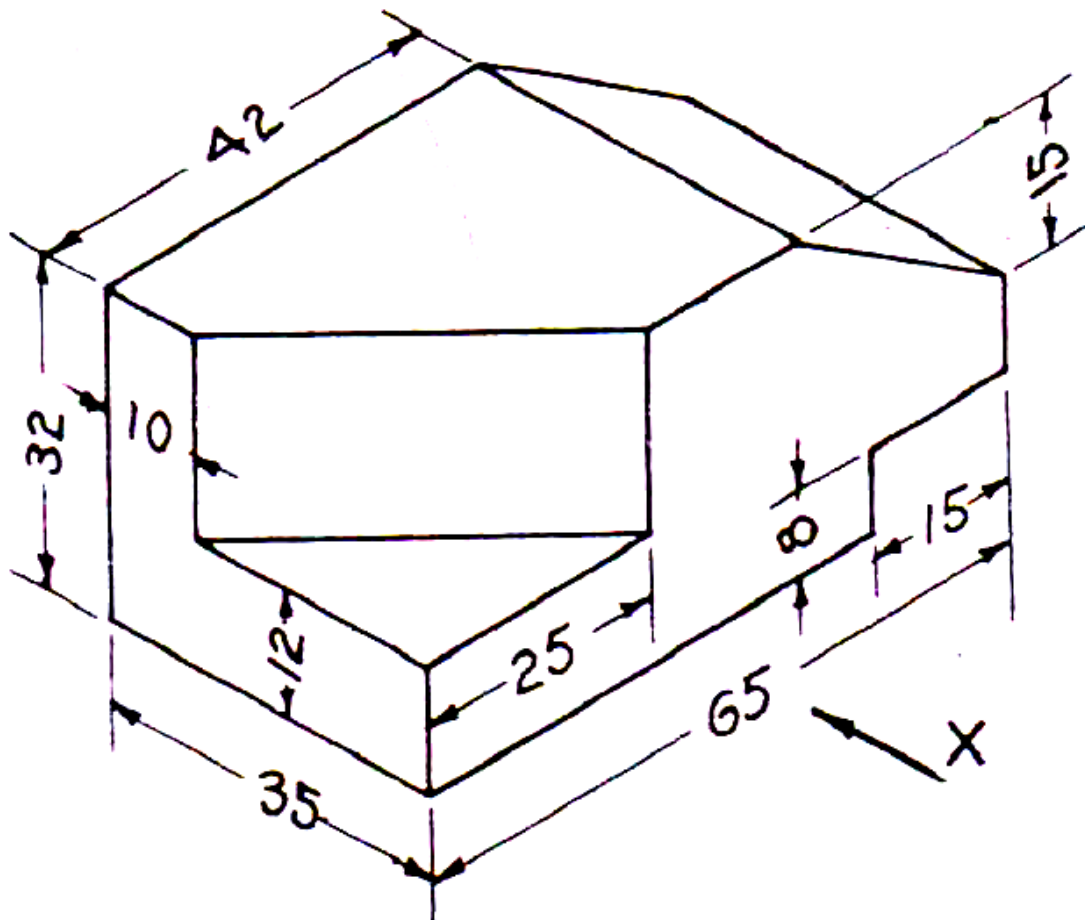

Figure 7
1. Draw the following View for **Figure 7**